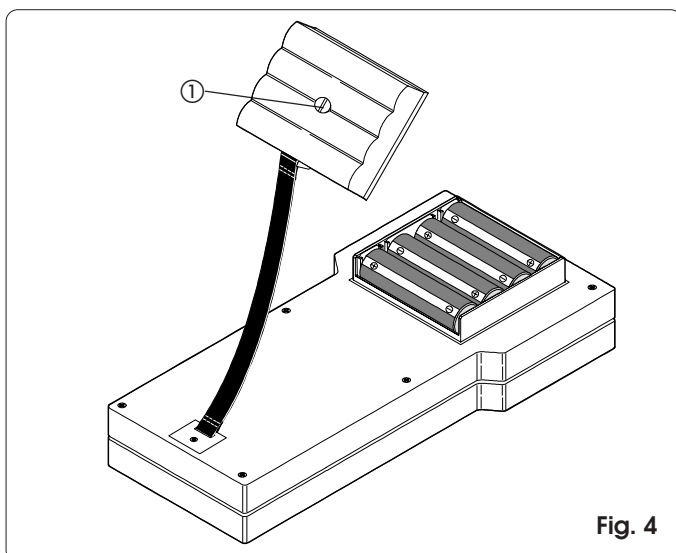

Fig. 4
Back off the closing screw of the battery housing, located at the bottom of FAACTOTUM (fig. 4, ref. ①) and lift up the cover.